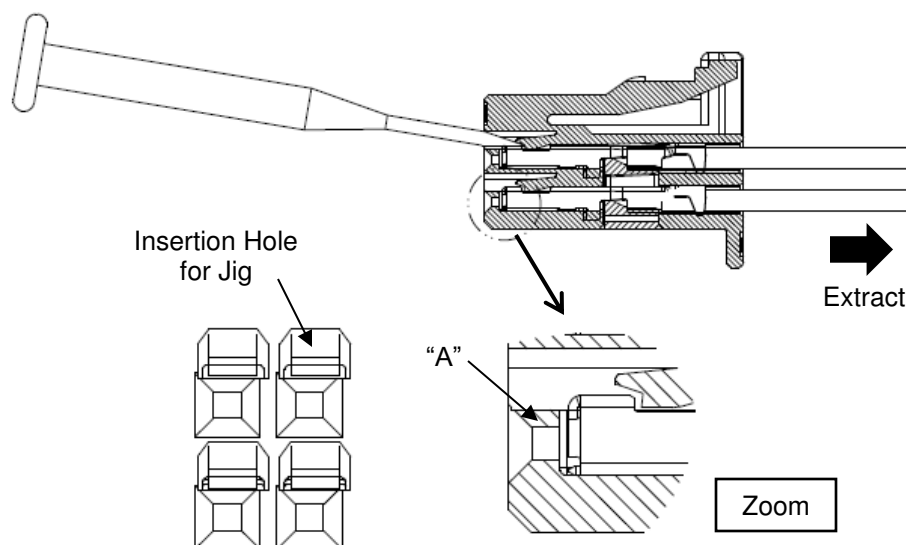

Fig. 7
- (1) Confirm the retainer is in pre-assembled condition. When the retainer is in final lock condition, it must be changed to pre-assembled condition. (See para 4.3) The female contact cannot be extracted in final assembled condition.
- (2) To extract the female terminals, using the extraction tool PN: 1729375-1 is recommended. Follow the instruction sheet No. 411-78139 to use the extraction tool. If the extraction tool cannot be prepared, insert a precision screw driver which is 1.4mm ~ 1.8mm width into the proper hole to the end, remove the loaded contact from housing while pulling the crimped wire. (See Fig.7)